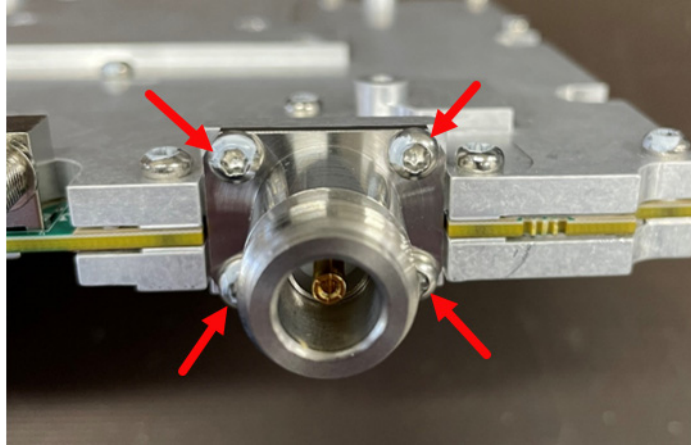

Figure 5-19. RF Input Adapter Removal
1. Using T10 Torx screw driver remove the four screws to carefully pull the RF input adapter straight off the SPA PCB assembly. See Figure 5-19.